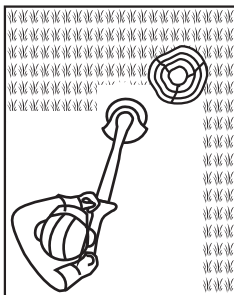

Fig. 20
4. Pull the plant protector out to avoid bringing the cutting device into contact with hard objects such as walls and kerbstones (Figs. 20, 21).